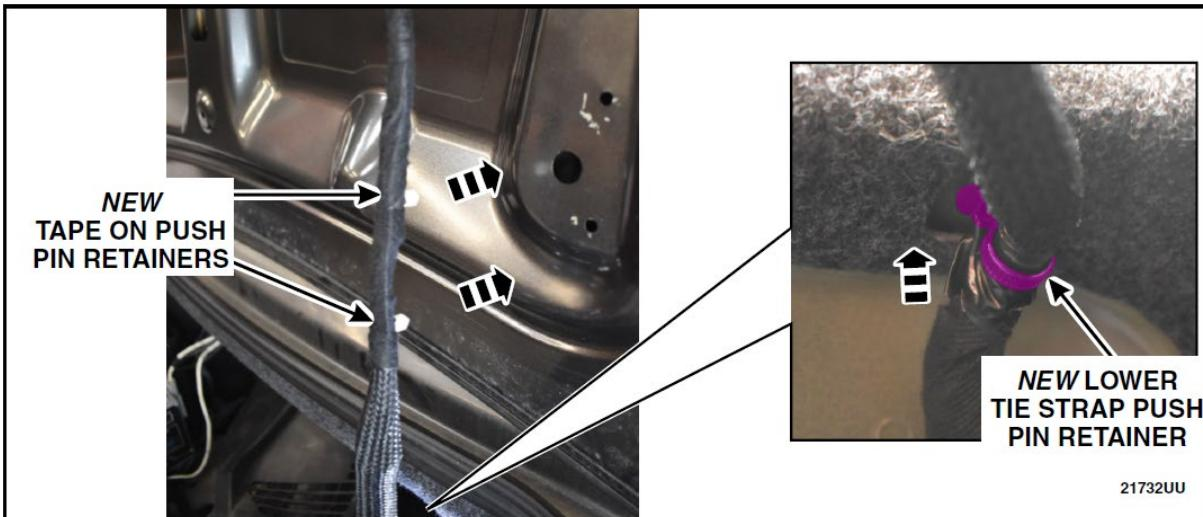

FIGURE 54
73. Position back the 2 new tape on push pin retainers and the new lower tie strap push pin retainer. See Figure 54.